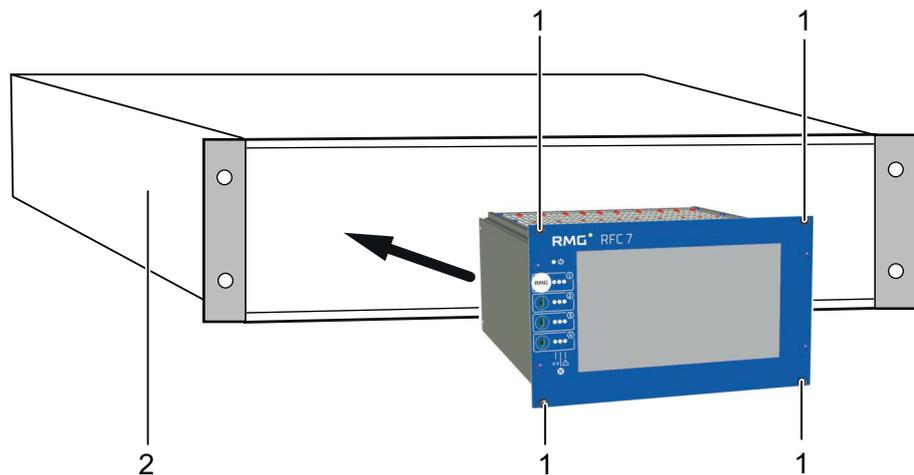

Fig. 17: Position of the screws on the front panel of the RFC 7
2. Place the RFC 7 in the required position and slightly tighten the four screws (fig. 17, item 1) with a cross-head screwdriver.